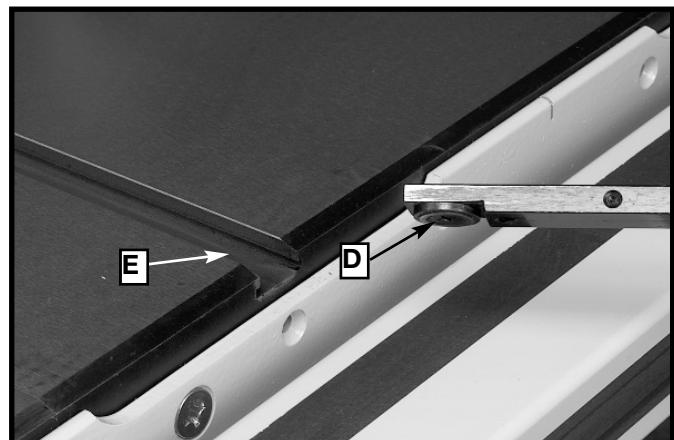

Fig. 41
Insert plate (D) Fig.41 into the miter gage slot (E) Fig. 41 and slide miter gage onto saw table.
The miter gage is equipped with a plate (D) Fig. 41 which fits into the T-Slot groove (E) in the table. This allows the miter gage to be pulled off the front edge of the table without falling. This allows for a longer cut-off capacity in front of the blade.